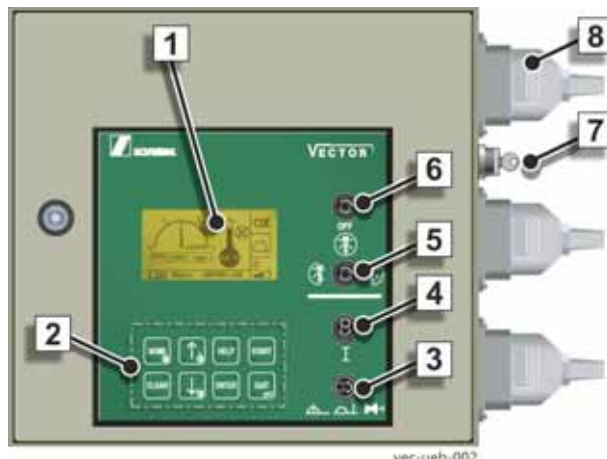

Fig. 206
The display (1) (**Fig. 206**) shows the most important operating data on its two start screens.